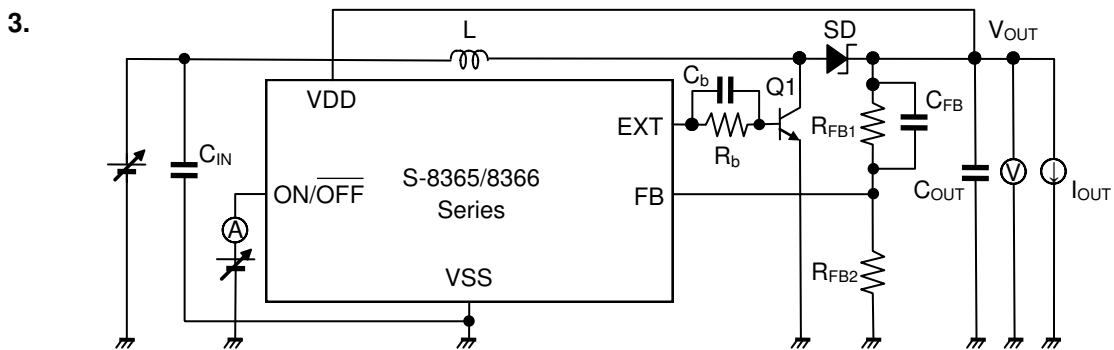

Figure 10
*2. This is the guaranteed value measured with external parts shown in “**Table 10 External Parts List**” and with test circuits shown in **Figure 10**. The operating start voltage varies largely depending on diode’s forward voltage. Evaluate sufficiently with actual device.